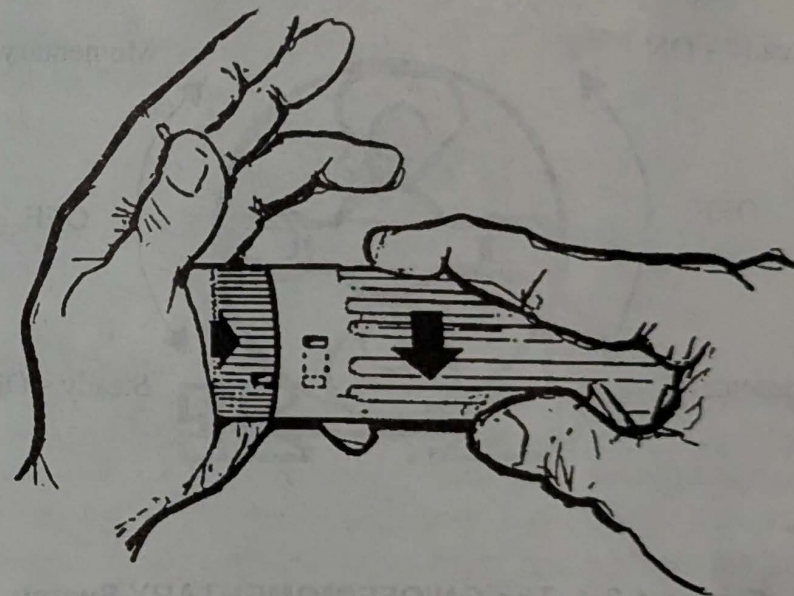

Figure 4.2-3 Bezel Removal/Installation
- (1) Remove the bezel by pushing down on the bezel with the palm of your hand and rotating counterclockwise until the bezel is free of the illuminator body. (See **Figure 4.2-3**)